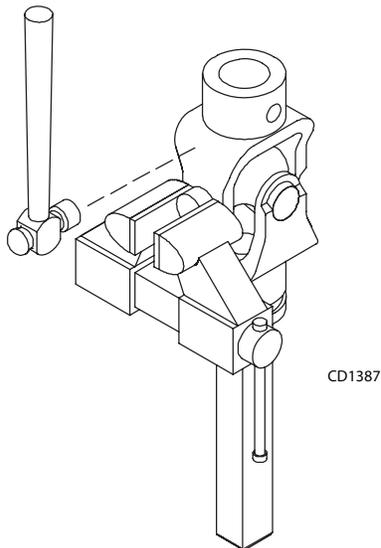

Figure 18
3. Clamp cup in vise as shown in Figure 18 and tap on yoke to completely remove cup from yoke. Repeat steps two and three for opposite cup.